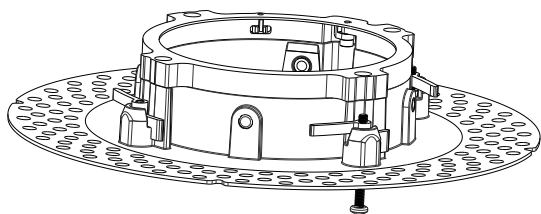

fig 5: Mount with flags at install position
- a. Remove shipping tape from flags. Ensure mount flags and flag nuts are in install position (Tight to mount body- see Fig. 5 for reference. It should not look like Fig. 6). Allow screws to hang from the mount.